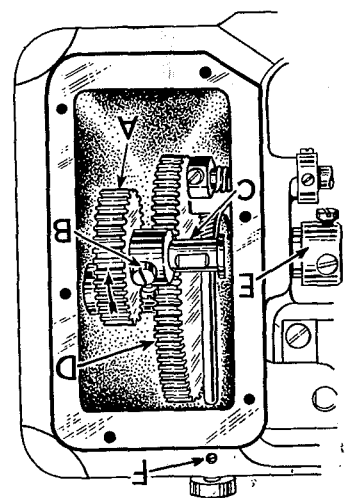
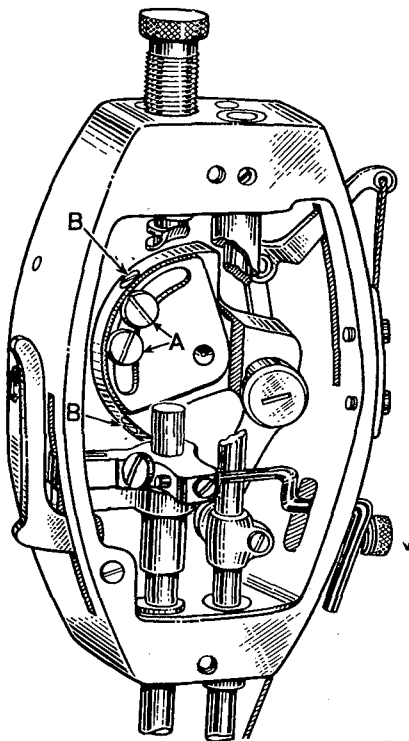

Fig. 19
Fig. 20
3. Loosen screws (B, Fig. 19) and slide gear (A) to the extreme right so it is out of mesh with the idler gear (D).
4. Looking through the stitch length indicator window on the top of the bed plate, rotate the lower main shaft (C) in the operating direction until the timing mark "T" appears between the pointers of the indicator window. Then, rotate upper main shaft in the operating direction until the needle bar reaches its highest position and has descended 1/32 inch. Carefully turn gear (A) without disturbing the lower main shaft setting until the setscrew lies directly above the flat in the lower main shaft. The gears should then be engaged as closely as possible in this position. While holding the gear and thrust collar (E) tightly between thumb and forefinger, tighten set screw against flat in shaft securely. Then, tighten the second set screw and check to see that there is no end play in the shaft, and that the machine revolves freely.
If, after making the above adjustments, the needle bar is not in its desired position when the timing mark is in the window, further adjustment may be made by using the slotted segment located on the counterweight in the head of the machine (Fig. 20). Loosen the two screws (B) holding the counterweight to the shaft, and also loosen the two screws (A) holding the segment to the counterweight.